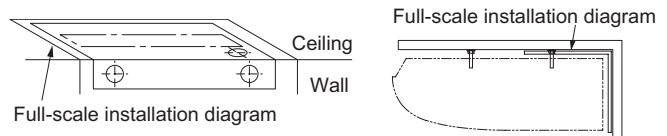

Fig. 1-190
- (2) If the full-scale installation diagram is bent at right angle to the ceiling and wall, the locations of the inlet for indoor tubing and wiring are chosen and the locations of each suspension bolt can also be chosen. Take a pencil and mark the drill holes (Fig. 1-190).